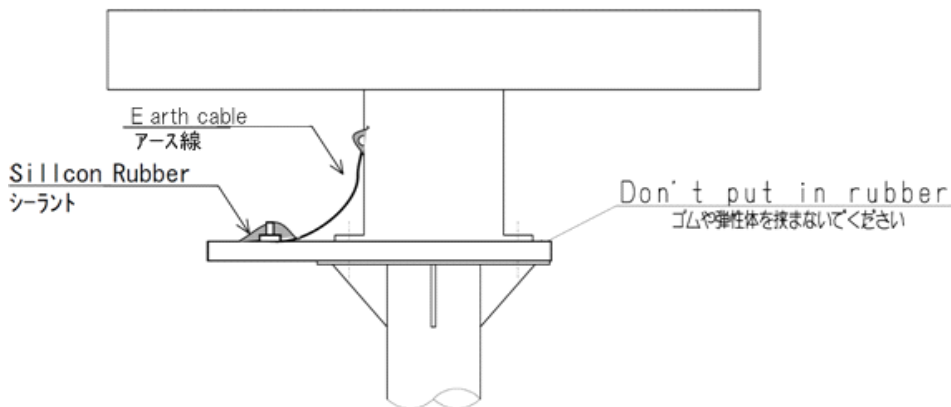

Fig 2-8 Grounding and corrosion-resistant measures
- Ground the scanner chassis and the installation surface (hull) by using an earth line. Apply sealant to the connection portion of the earth line to prevent corrosion and damage by vibration (**Fig 2-8 Grounding and corrosion-resistant measures**).